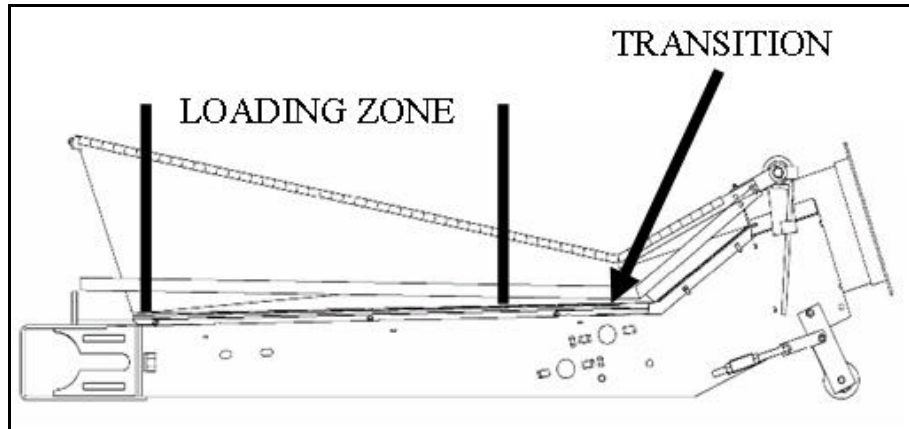

Figure 6.1 Field Loader Hopper Loading Zone
- Load materials in the loading zone indicated in Figure 6.1.